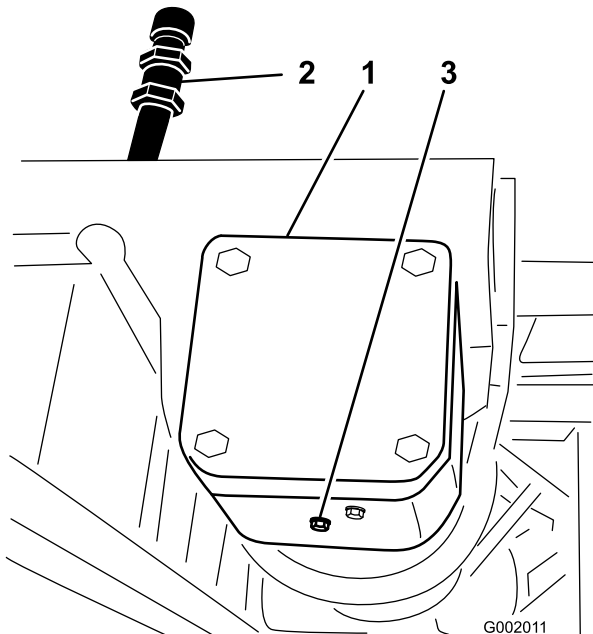

Figure 66
2. Place a pan under the drain plug on the pump drive gear box (Figure 66).
3. Remove the fill plug and drain plug (Figure 66), allowing the oil to drain into the pan.